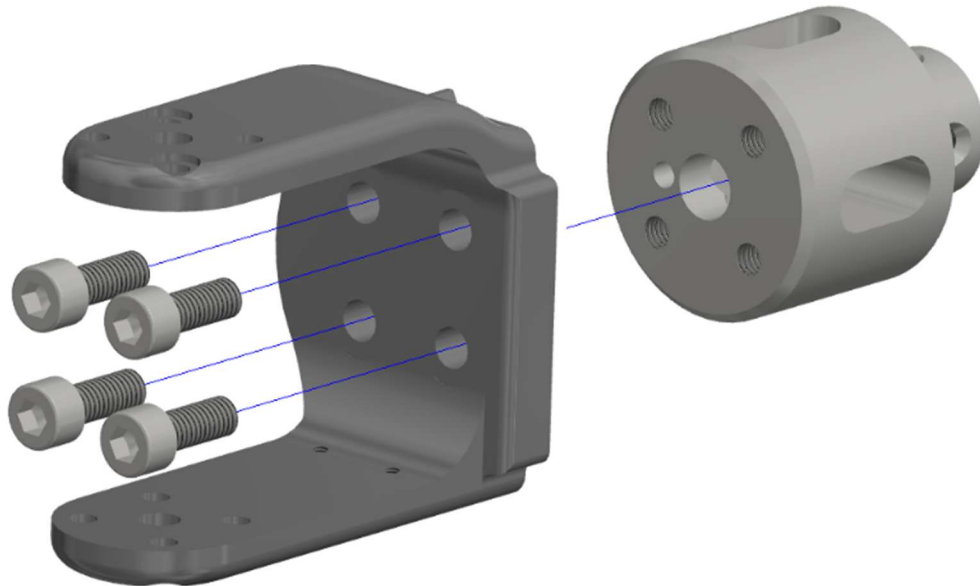

Figure 10-62. Assemble the Knee Clevis (474-5517-1,2) to the Upper Tibia Load Cell (SA572-S103)
10.3.27 Assemble the Knee Clevis (474-5517-1,2) to the Upper Tibia Load Cell (SA572-S103) using four M6 X 1 X 16 LG. SHCS (Figure 10-62).